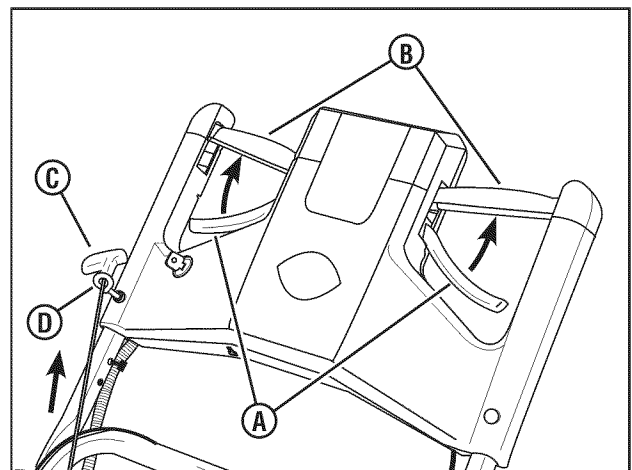

Figure 3: Starter rope handle
1. Squeeze the blade control (**A**, **Figure 3**) against the drive control (**B**).